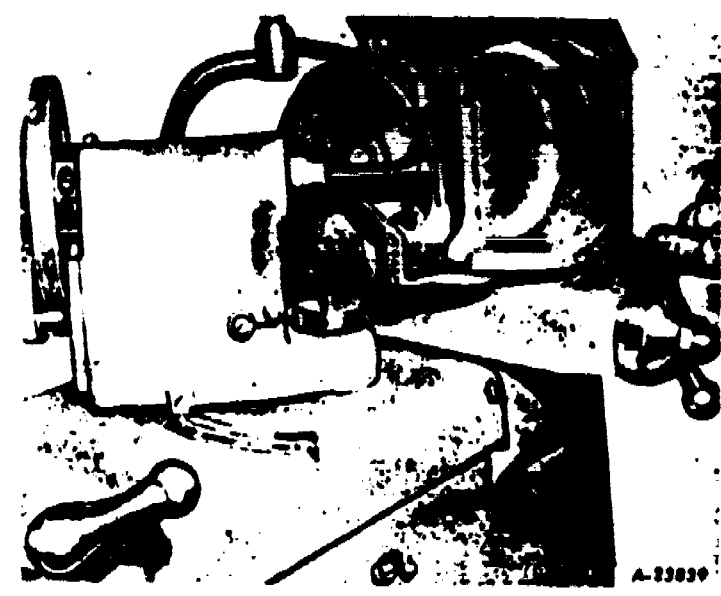

Fig. 63 - Grinding Valve Face Angle
1. Set the valve refacing machine (Fig. 63) to the specified angle and dress the grinding stone.